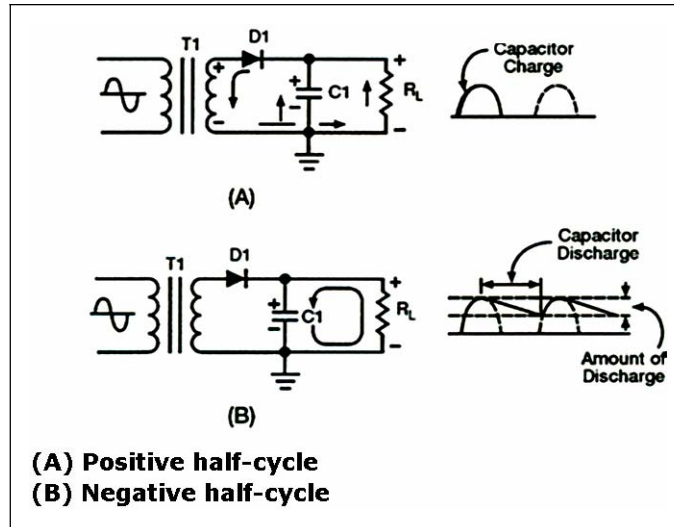

Figure 4-17. Capacitor Filter Circuit (Positive and Negative Half Cycles)
4-43. Let us consider a complete cycle of operation using a half-wave rectifier, a capacitive filter (C_1), and a load resistor (R_L). The capacitive filter (C_1), shown in Figure 4-17, view (A), is assumed to be large enough to ensure a small reactance to the pulsating rectified current. The resistance of R_L is assumed to be much greater than the reactance of C_1 at the input frequency. When the circuit is energized, the diode conducts on the positive half cycle and current flows through the circuit, allowing C_1 to charge. C_1 will charge to approximately the peak value of the input voltage (the charge is less than the peak value because of the voltage drop across the diode (D_1)). Figure 4-17, view (A) shows that the heavy solid line on the waveform indicates that the charge is C_1 . View (B) shows that the diode cannot conduct on the negative half cycle because the anode of D_1 is negative in respect to the cathode. During this interval, C_1 discharges through the load resistor (R_L). The discharge of C_1 produces the downward slope as indicated by the solid line on the waveform in view (B). In contrast to the abrupt fall of the applied AC voltage from peak value to zero, the voltage across C_1 (and thereby across R_L) during the discharge period gradually decreases until the time of the next half cycle of rectifier operation. Remember that for good filtering, the filter capacitor should charge up as fast as possible and discharge as little as possible.